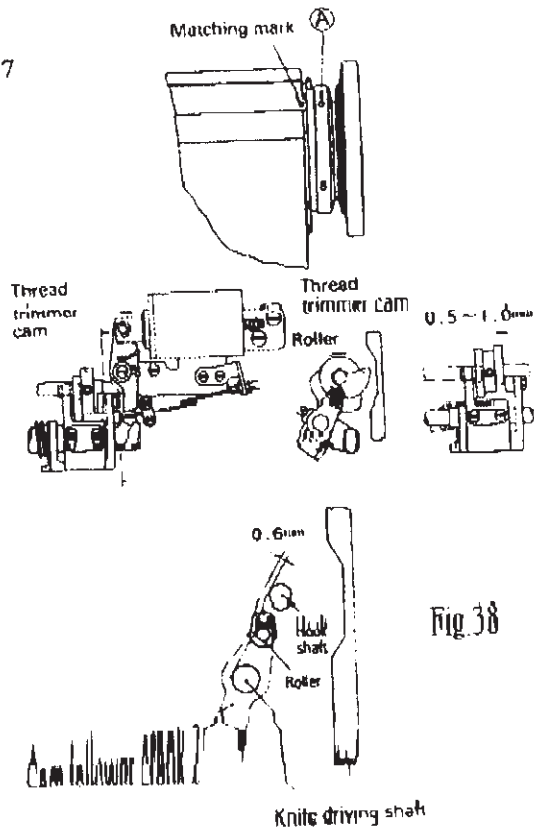

Fig. 38
(1) Operation stroke of the thread trimmer solenoid:
(2) Installing the unit:
5) Installing the thread trimming cam (Fig.38):